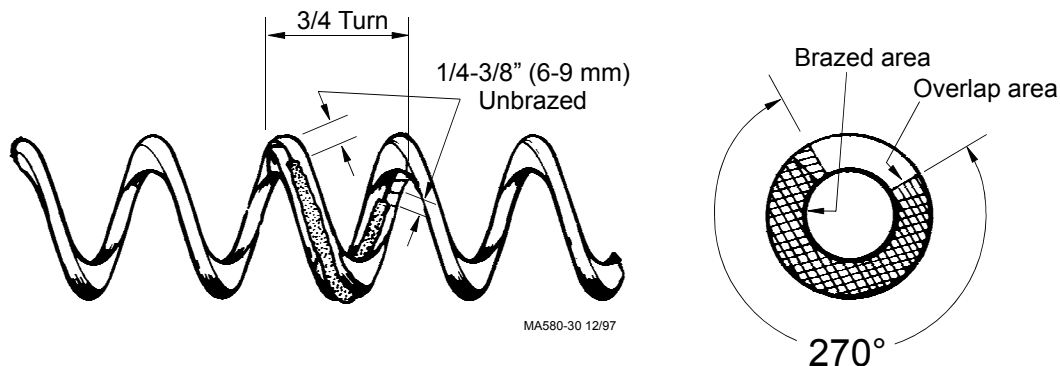

Figure 16. Auger Brazing information.
3. Braze the inside of the joint, joining the surfaces to within 1/8" to 1/4" (3 mm to 6 mm) of each end. **THIS IS CRITICAL!** See Figure 16.